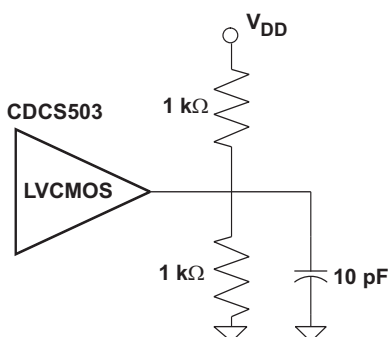

Figure 2. Test Load
- (1) Measured with Test Load, see Figure 2.